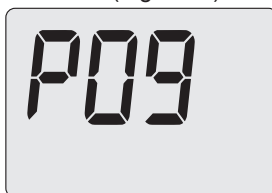

Fig. 8.38
- Press 12 and hold until the LCD display shows the code **P09**, indicating entry into “parameter P09” (Fig. 8.38).